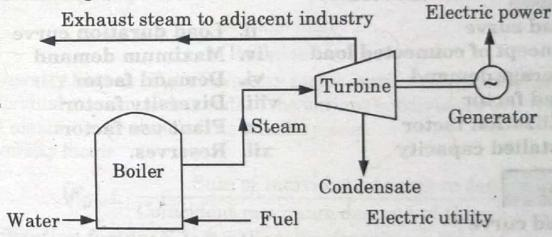

Fig. 1.6.2. Reject heat utilization system.
10. The reject heat utilization system is used in power plant. Some steam is extracted from the turbine (at a suitable temperature and pressure) and supplied to an adjacent industry for manufacturing purposes. This is shown in Fig. 1.6.2.